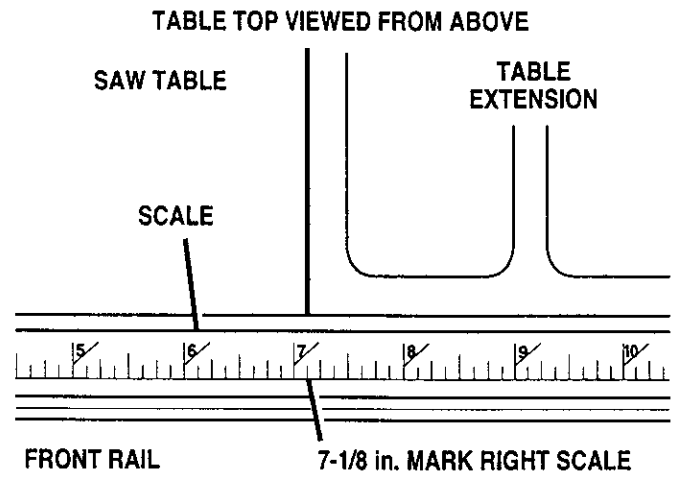

Fig. 8
- Align the rail left to right - Match the 7-1/8 in. mark on the right scale to the right edge of the saw base (main table). *See Figure 8.*